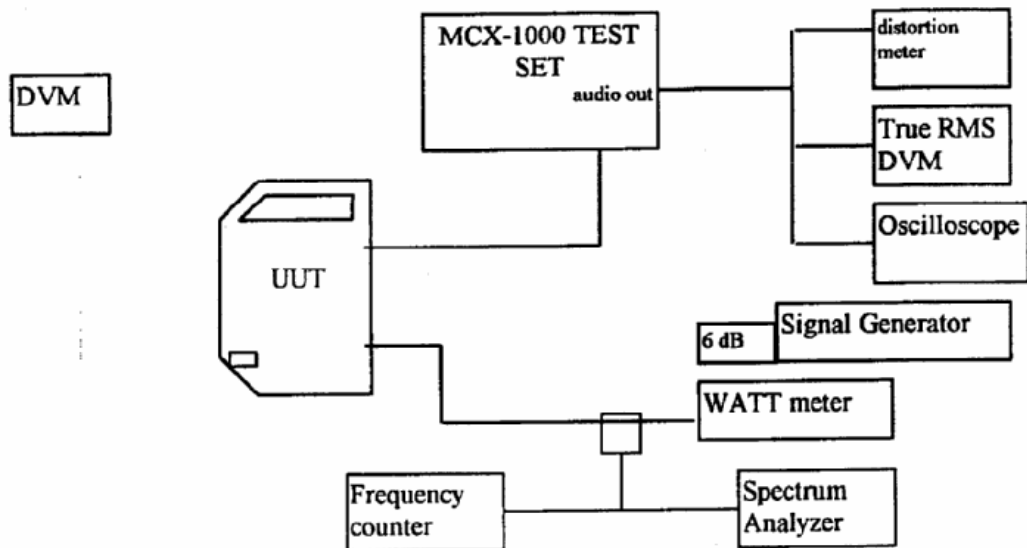

Figure 3 TX Filter Alignment Test Set-up
- 5.1.2. Connect the Equipment per figure 3. Solder the 15 V transmit line to E7 and Mod B+ to the R/T under test.
- 5.2.1. Connect the Equipment per figure 3. Turn the unit power on.